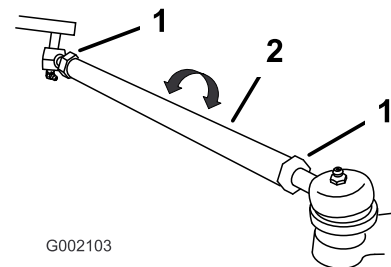

Figure 43
3. If the measurement does not fall within the specified range (refer to the dimensions and parameters at the beginning of this procedure), loosen the jam nuts at both ends of the tie rods (Figure 43).